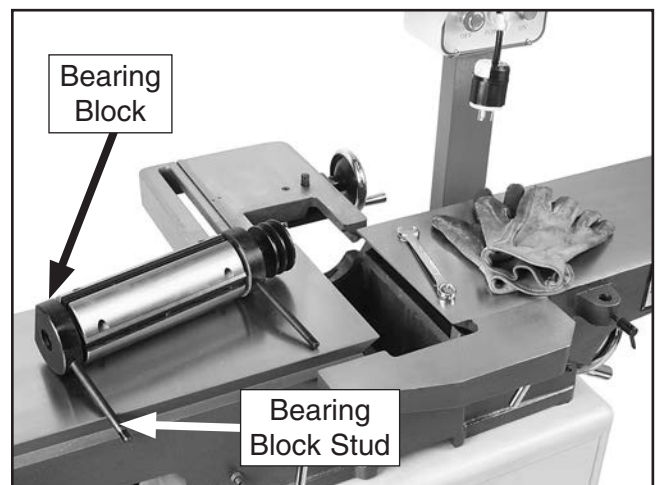

**Figure 3.** Example of removing nut and lock washer on bearing block stud.
5. Remove the nut and lock washer on the bearing block stud, as shown in **Figure 3**, and repeat on the other side.